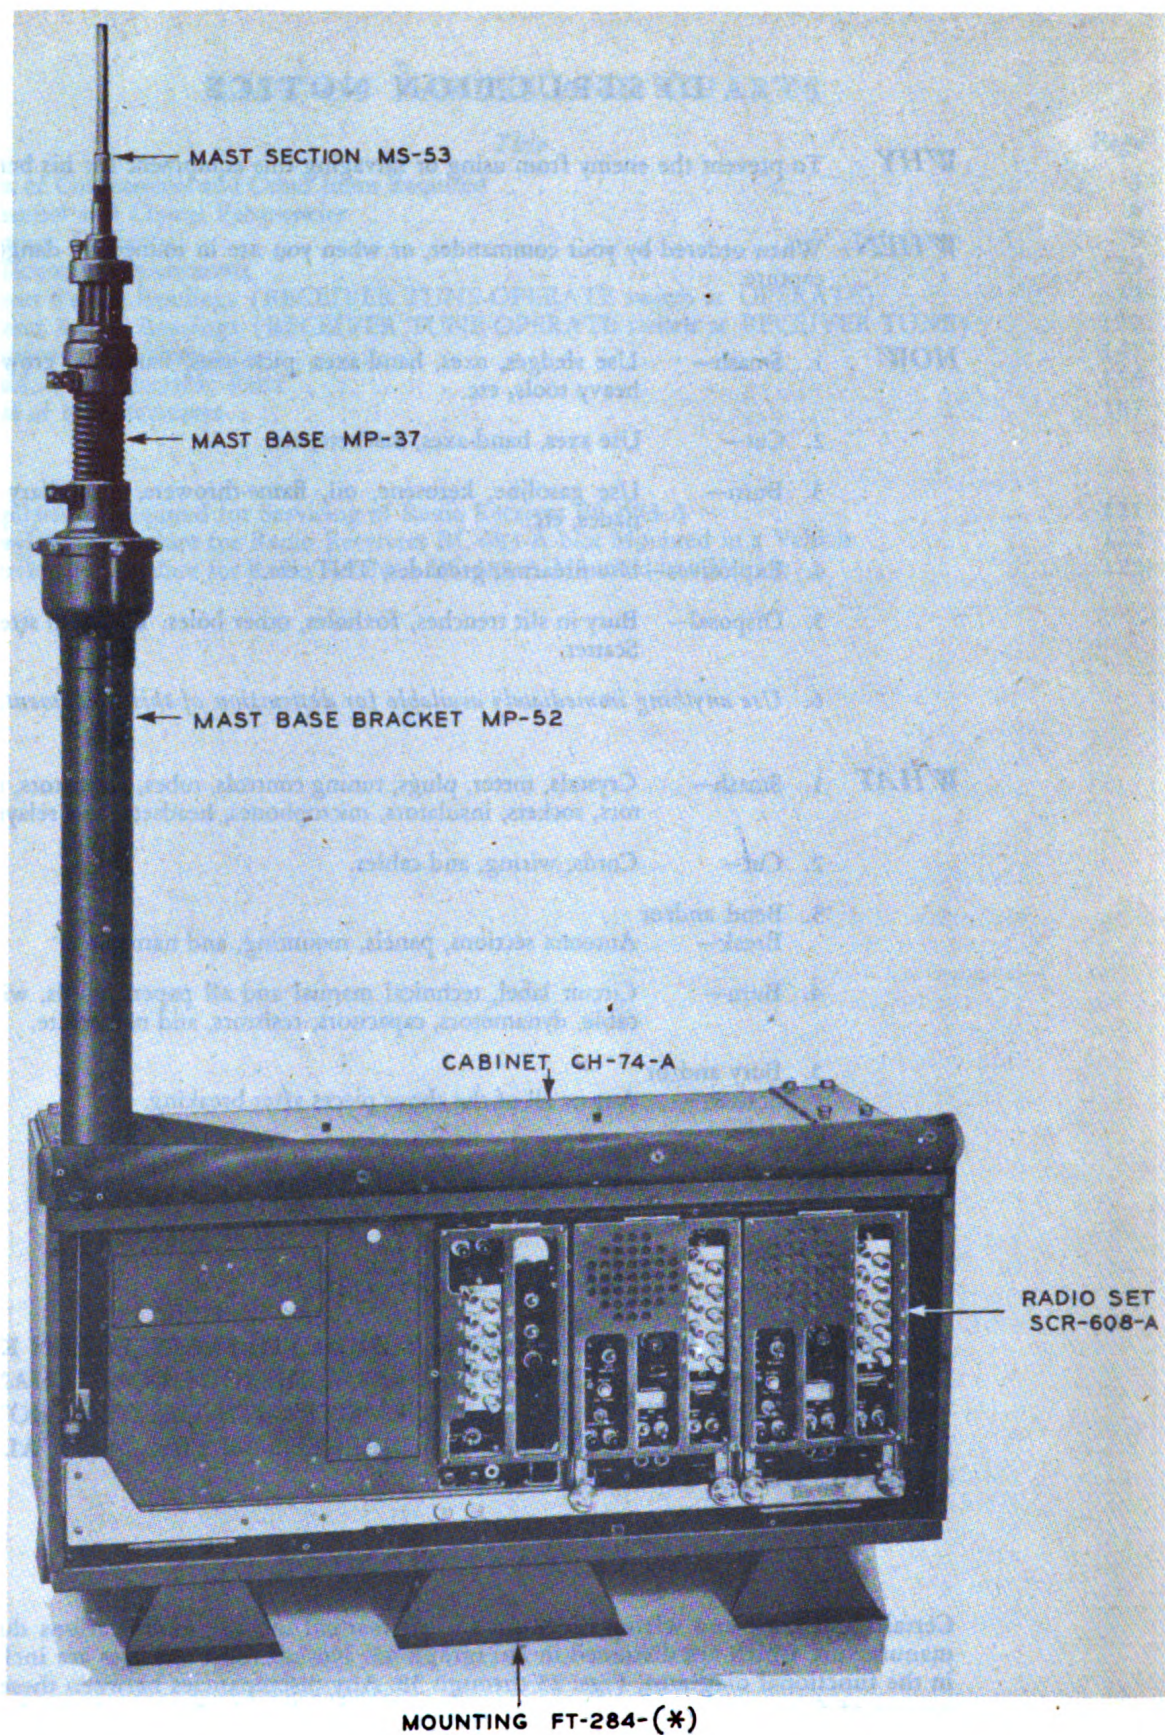

Fig. 1. Radio Set SCR-608-A: Front View of Cabinet CH-74-A with Associated Components
a. Arrangement and Weight of Major Components. The general construction and arrangement of Radio Sets SCR-608-A and SCR-628-A are shown in Figs. 1 and 2. Over-all component and assembly dimensions are shown in Fig. 3. The radio sets consist of these combinations of major units:
(1) Radio Set SCR-608-A.